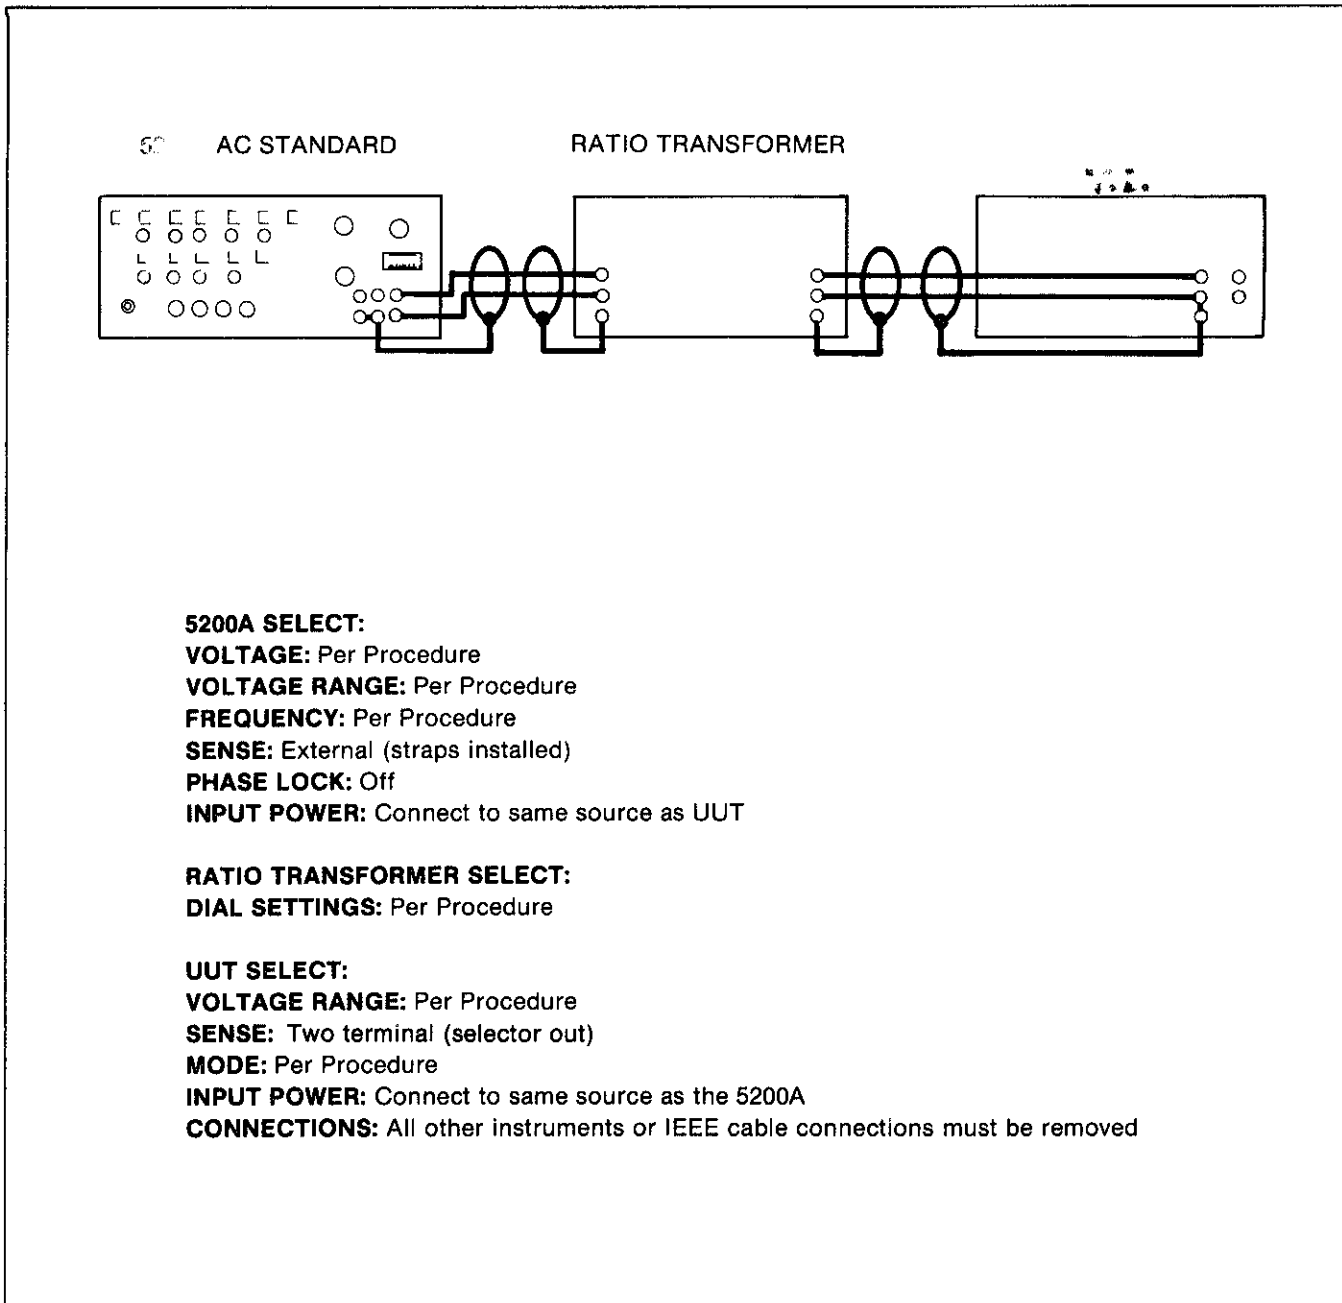

Figure 4-6. Equipment Set-Up B
9. Connect the 5200A output terminals to the input of the Ratio Transformer and connect the output of the Ratio Transformer to the input terminals of the UUT as shown in Figure 4-6.